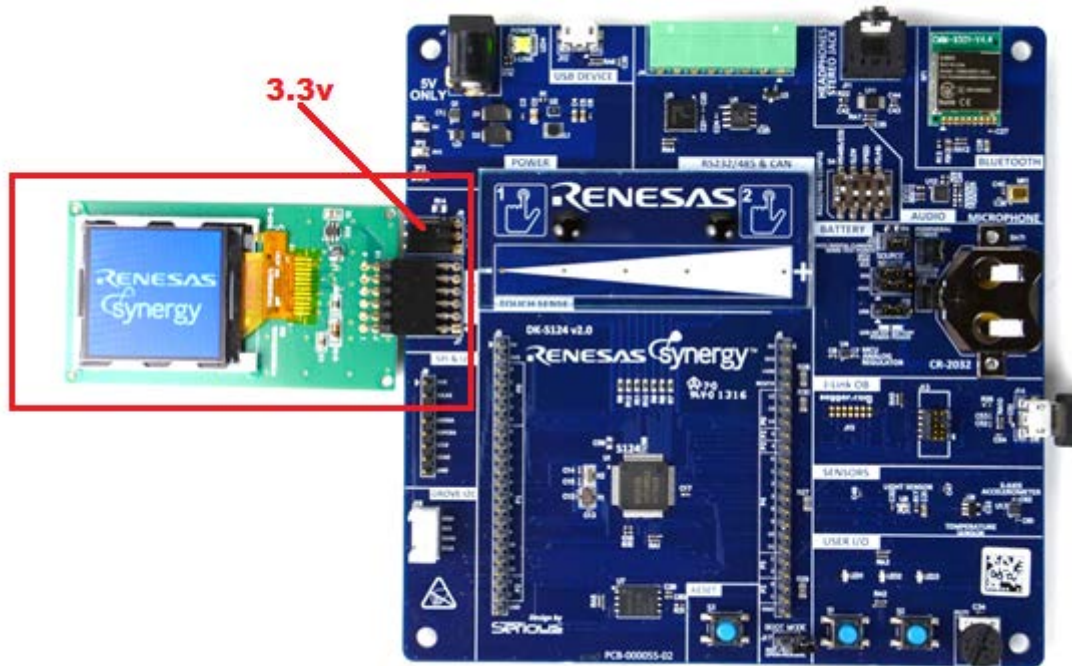

Figure 3. Okaya PMOD display connected to J7 PMOD™ socket
3. Connect Okaya PMOD™ display to J7 (Figure 3).